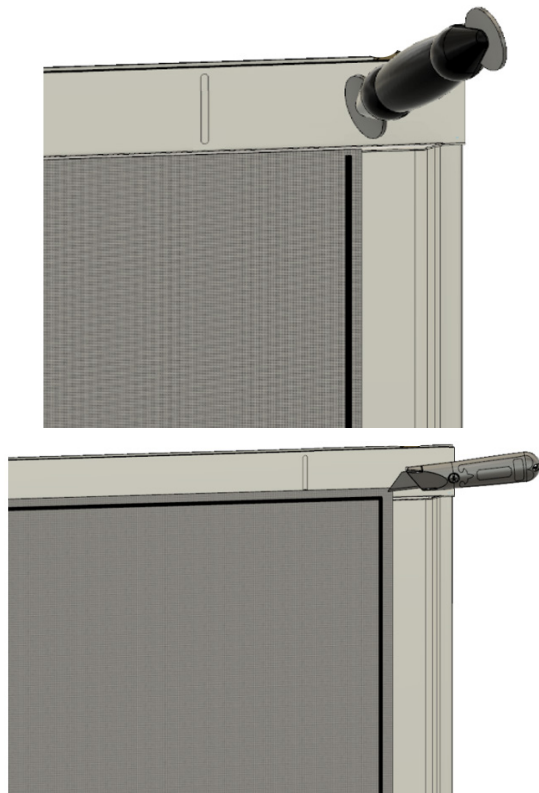

Figure 5
STEP 3.....Install screen mesh into frame (Scan QR code on mesh bag, (SEE FIG. 5), see instructions on mesh bag, and/or follow below stepS)